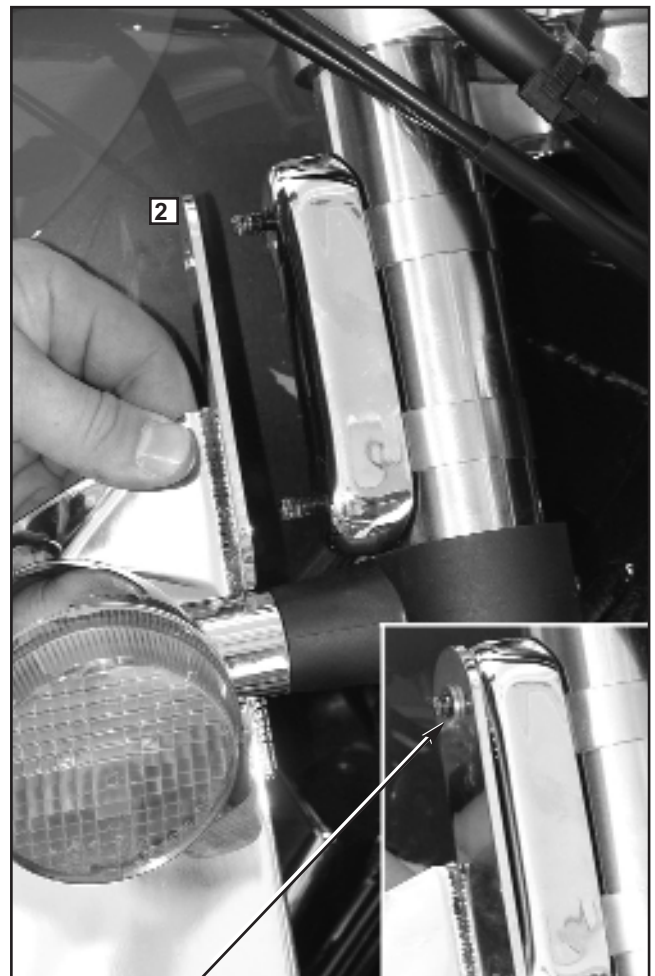

Figure 2.
1. Select the appropriate Chrome Lower for the left or right side of the motorcycle. Place Lower on stud of Spider. Place Brass Washer on upper stud to the outside of the Chrome Lower. **Figure 2.**